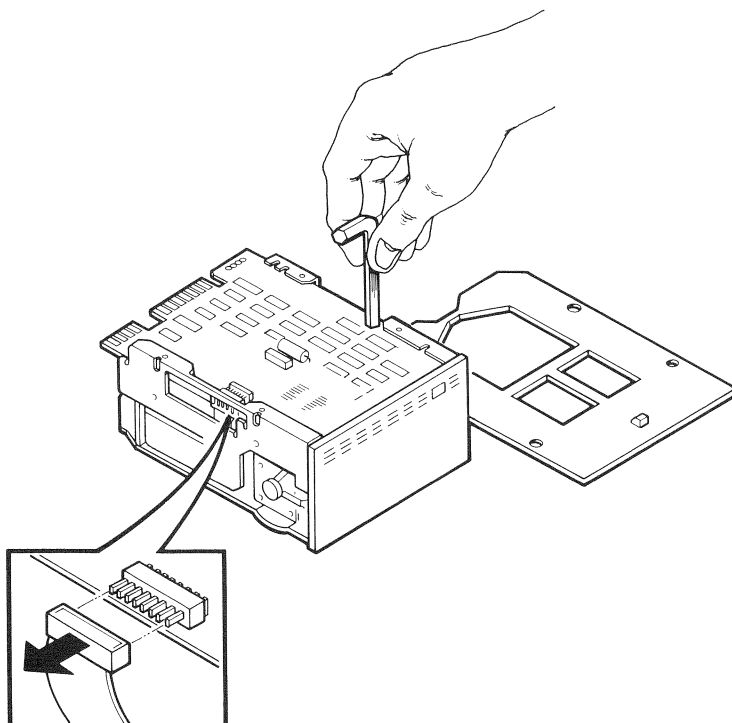

Figure 8-8 RD51 Disk Drive Allen Screws and Connector P5 Removal
2. Using a 3/32-inch Allen wrench, remove the four screws that hold the read/write printed circuit board to the fixed-disk drive (Figure 8-8).